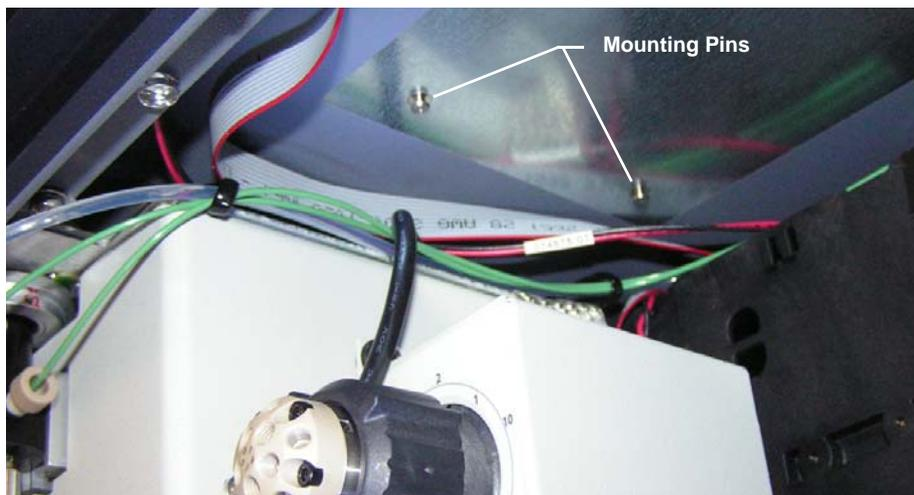

Figure 6. *Mounting Pins on Underside of Dionex AS-AP Top Cover*
3. Locate the accessory mounting location on the underside of the Dionex AS-AP top cover (see Figure 6). Be careful to clear all tubing and cables from being trapped between the accessory and the mounting location. Use the two cable ties shown in Figure 6 to keep tubing and cables out of the way.
6. Locate the two mounting pins on the underside of the Dionex AS-AP top cover, on the left side (see Figure 6). Also locate the screw hole on the underside of the top cover, on the right side (not pictured).